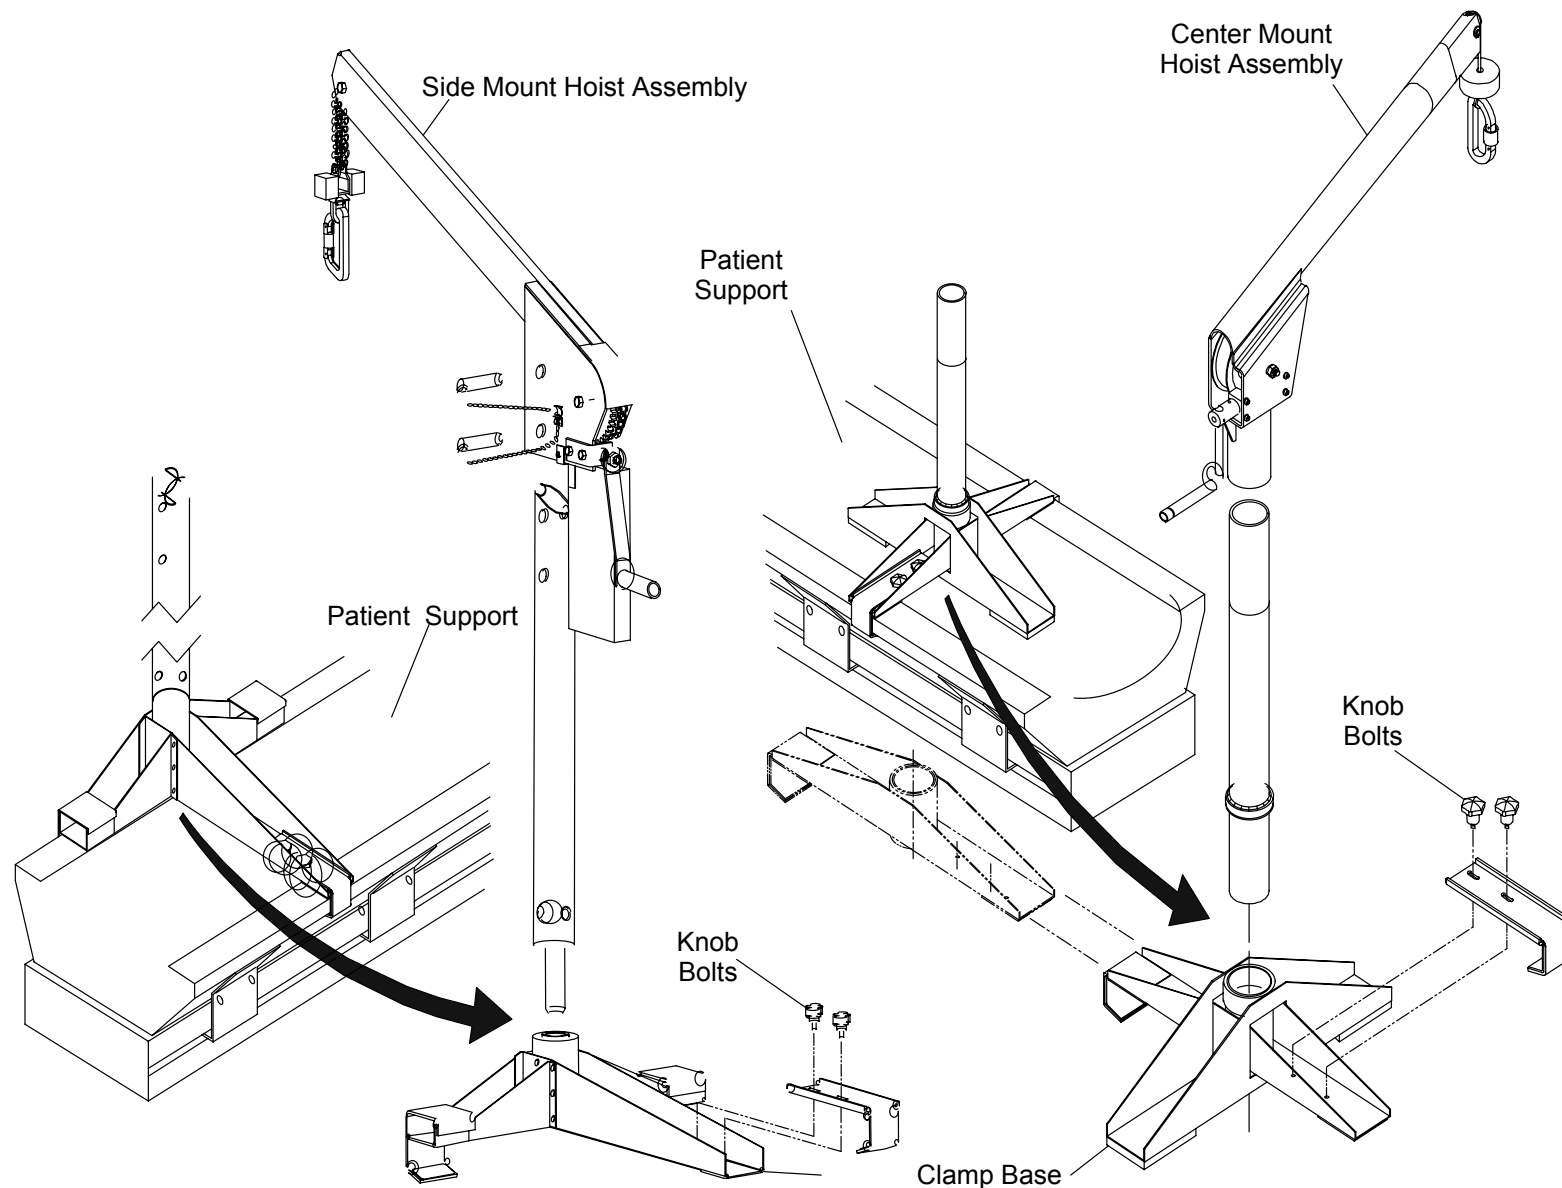

FIGURE 279 HOIST ASSEMBLY
7. Secure the Hoist Assembly to the Patient Support. Make sure that the Clamp Base is seated firmly in position on the Patient Support and that the Knob Bolts are screwed in securely. See Figure 279.